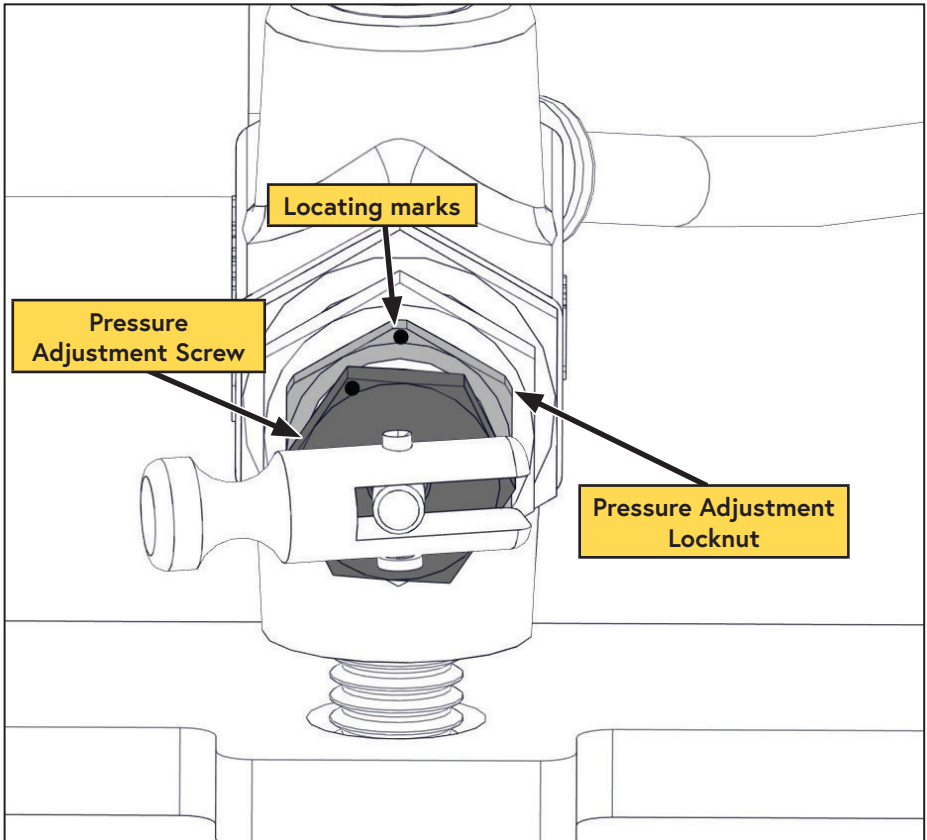

Figure 44 — Adjusting the Unloader Valve
- ☐ Make a locating mark on both the "Pressure Adjustment Locknut" and the "Pressure Adjustment Screw" (Figure 44).